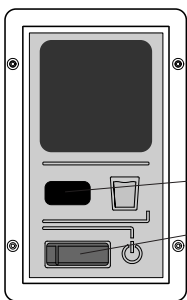

Fig. 10: Control panel AD 5 and AD 6, S-version
3. Turn off the dehumidifier via the mains switch. Then press the on/off switch **E-version** (Fig 9, Pos. 5), S-version (fig10, Pos. 2) on the control panel. If the dehumidifier is properly connected and the existing humidity is higher than the set humidity value (**only E-version**), the dehumidifier will start to operate. The final values of the humidistat, language and fan speed can be optionally taken (**only E-version**).
1. Turn off the dehumidifier at the on / off switch (Fig. 9, Pos. 5) and (Fig.10 Pos. 2).